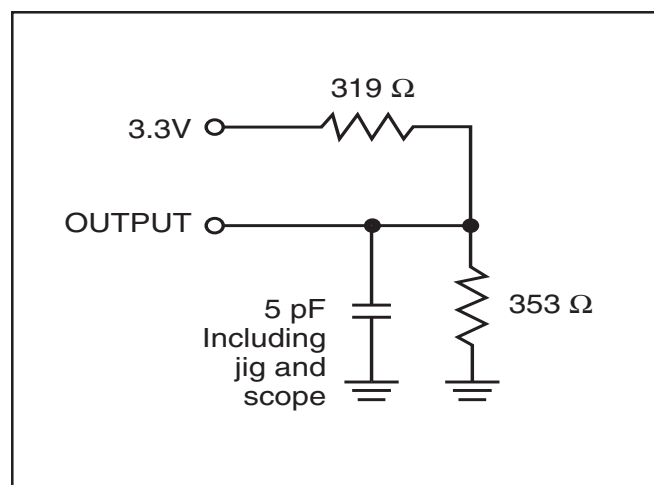

Figure 2
- Tested with the load in Figure 2. Transition is measured ± 500 mV from steady-state voltage.
2. Tested with the load in Figure 2. Transition is measured ± 500 mV from steady-state voltage. Not 100% tested.